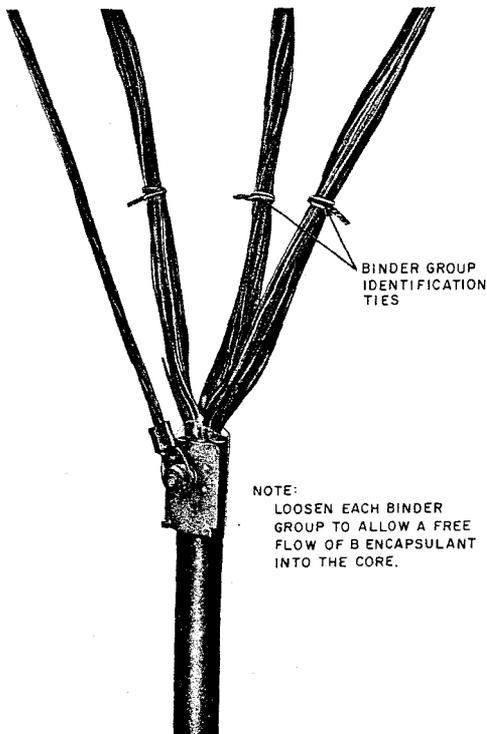

Fig. 6—Binder Group Identification Ties Placed
- (f) As each unit binder is removed, approximately 3 inches above the butts, place Binder Group Identification Ties around each binder group (Fig. 6).